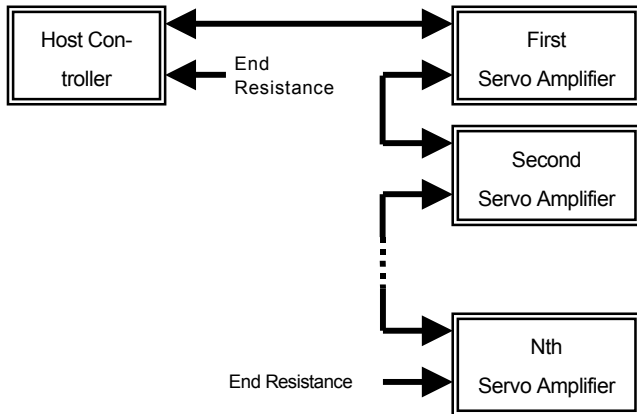

Fig.2 Daisy Chain (Multidrop)
- As a high-speed multipoint communication method, the serial communications conforms to the general RS485 (RS422A) standard. Expensive cables etc. are unnecessary, and a low cost daisy chain (multi-drop) can be configured (Fig. 2).